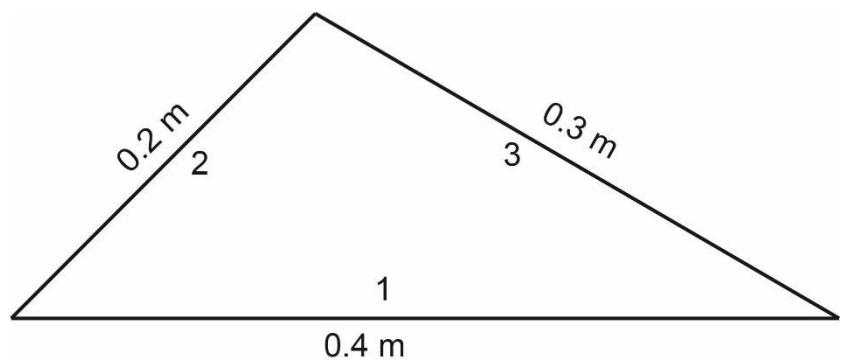

Figure Q.2
2. Shown in **Figure Q.2** is a cross-section of a two-dimensional triangular duct whose surfaces are numbered 1, 2 and 3 as shown. Areas of surfaces 1, 2 and 3 are A_1 , A_2 and A_3 respectively.
The dimensions of this geometry are also shown in **Figure Q.2**. Surfaces 1, 2 and 3 are at temperatures of 500 K, 600 K. and 400 K respectively and emissivities are $\varepsilon_1 = 0.8$, $\varepsilon_2 = 0.7$ and $\varepsilon_3 = 0.6$. In usual notations for an enclosure with n number of surfaces, the radiosity of the i^{th} surface is related to the other radiosities by the equation:
- b) Using the equation above, write equations for each surface to connect their own radiosities to the radiosities of the other surfaces for the triangular configuration shown in **Figure Q.2**. [3 marks]